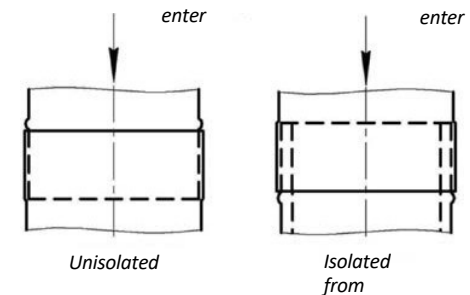

Figure 2. Connecting the flue pipes
on a brick base, as shown in Figure 2. The underside of the oven door, which is composed of combustible and flammable materials, shall be protected by a metal sheet 700 x 700 mm, placed long side down along the length of the oven.
**NOTE!** For non-insulated (stainless) metal chimney flue assemblies, insert the top pipe into the bottom pipe (Figure 2).